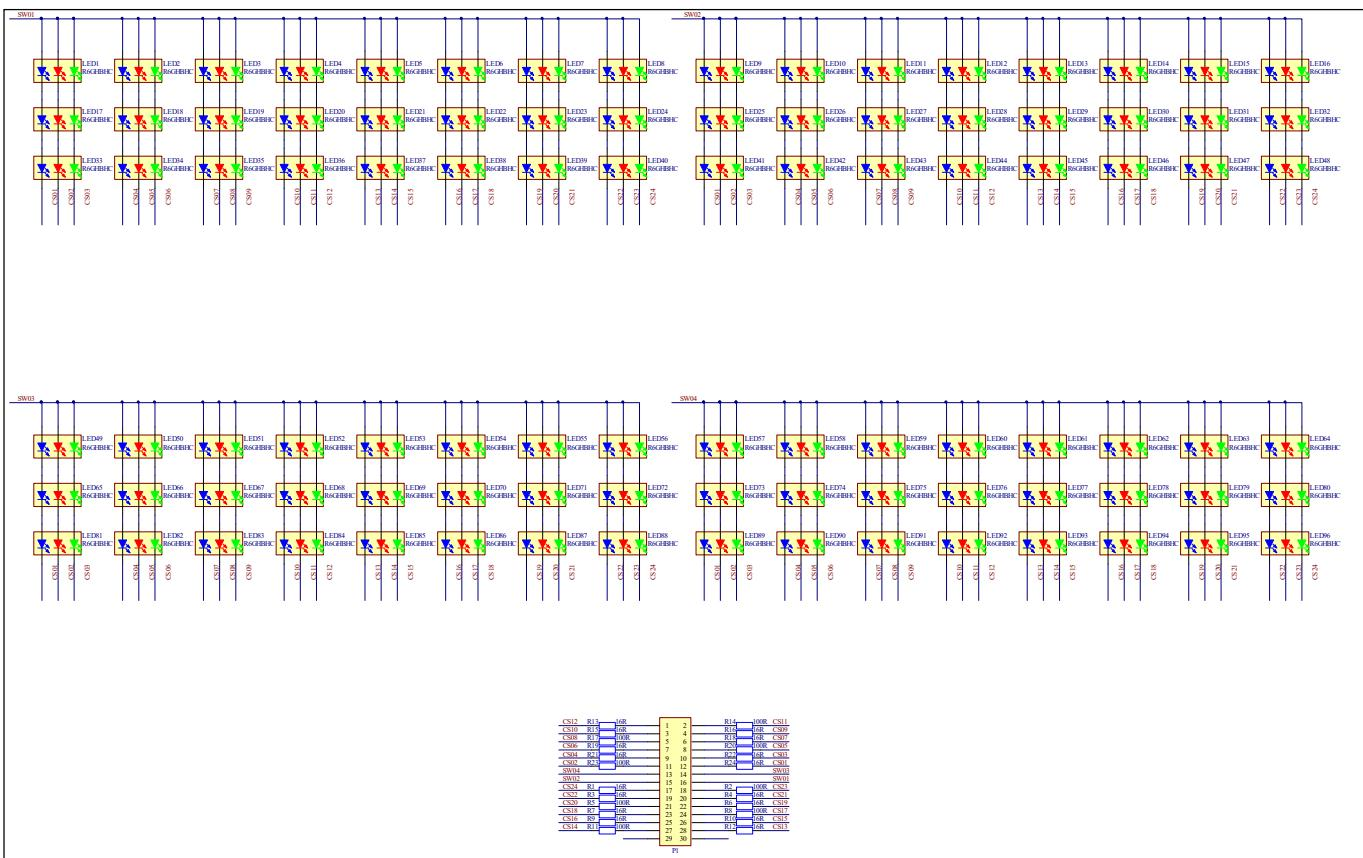

Figure 4: FxLED ARRAY 3x16x2 Schematic
*Bill of Materials, refer to Figure 4 above.*